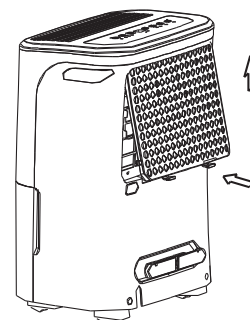

Fig. 10
- Insert the air filter into the unit from underside to upside. See Fig.10.